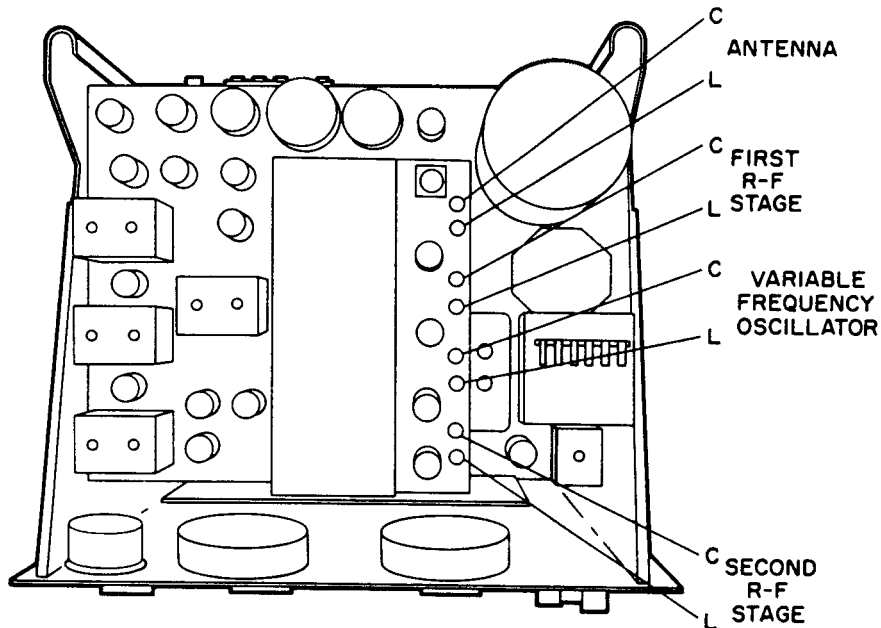
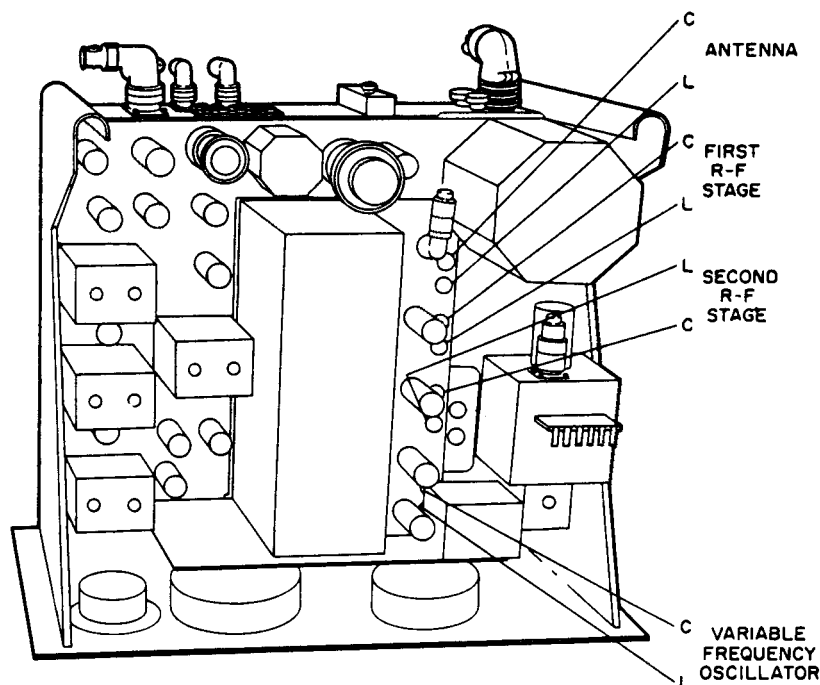

Figure 2-5. Radio Receiver SP-600-JX-21, Top View of R-F Section
Figure 2-6. Radio Receiver SP-600-JX-17, Top View
- (2) Set the MOD-CW switch on the radio receiver to the MOD position.
- (3) Set the SELECTIVITY switch on the radio receiver to the 3 NON-XTAL position.
- (4) Set the MULTIPLIER switch on the signal generator to the .1 position and adjust the CARRIER CONTROL until an indication of 100 is obtained on the signal generator output meter.
- (5) Adjust the MICROVOLTS control on the signal generator until an indication of 30 is obtained on the upper scale of the signal generator output meter.
- (6) Set the MOD SELECTOR switch on the signal generator to the 400 cycle position.
- (7) Set the METER READS switch on the signal generator to the % MOD position and adjust the % MODULATION control until an indication of 30 is obtained on the lower scale of the signal generator output meter.
- (8) Set the METER READS switch on the signal generator to the RF position.
- (9) Rotate the BAND CHANGE switch on the radio receiver until the indication 0.54-1.35 appears in the MEGACYCLES window.
- (10) Rotate the radio receiver TUNING control until an indication of 0.56 megacycle is obtained on the main tuning and vernier dials.
- (11) Adjust the AUDIO GAIN control on the radio receiver until an indication of 2.45 volts is obtained on the multimeter.
- (12) Refer to figure 2-5 for Radio Receiver SP-600-JX-21 or figure 2-6 for Radio Receiver SP-600-JX-17. Remove the metal caps and adjust, in turn, variable-frequency oscillator L, antenna L, first r-f stage L, and second r-f stage L until a maximum indication is obtained on the multimeter.
- (17) Adjust the CARRIER CONTROL on the signal generator until an indication of 100 is obtained on the signal generator output meter.
- (18) Adjust the MICROVOLTS control on the signal generator until an indication of 30 is obtained on the upper scale of the signal generator output meter.
- (19) Set the MOD SELECTOR switch on the signal generator to the 400 cycle position.
- (20) Refer to figure 2-5 for Radio Receiver SP-600-JX-21 or figure 2-6 for Radio Receiver SP-600-JX-17. Adjust, in turn, variable-frequency oscillator C, antenna C, first r-f stage C, and second r-f stage C until a maximum indication is obtained on the multimeter.
- (21) Rotate the CARRIER CONTROL on the signal generator fully counterclockwise.
- (22) Set the MOD SELECTOR switch on the signal generator to the OFF position.
- (23) Repeat step b. (4) through (6) and (8) through (22).
- (24) Rotate the signal generator tuning dial until an indication of 1.4 megacycles is obtained on the frequency and index scales.
- (25) Rotate the BAND CHANGE switch on the radio receiver until the indication 1.35-3.45 appears in the MEGACYCLES window.
- (26) Rotate the radio receiver TUNING control until an indication of 1.4 megacycles is obtained on the main tuning and vernier dials.
- (27) Repeat step b. (17) through (19).
- (28) Refer to figure 2-5 for Radio Receiver SP-600-JX-21 or figure 2-6 for Radio Receiver SP-600-JX-17. Adjust, in turn, variable-frequency oscillator L, antenna L, first r-f stage L, and second r-f stage L until a maximum indication is obtained on the multimeter.
- (29) Repeat step b. (13) and (14).
- (30) Set the FREQUENCY BAND SWITCH on the signal generator to the Band F position and rotate the signal generator tuning dial until an indication of 3.4 megacycles is obtained on the frequency and index scales.
- (31) Rotate the radio receiver TUNING control until an indication of 3.4 megacycles is obtained on the main tuning and vernier dials.
- (32) Repeat step b. (17) through (19).
- (33) Refer to figure 2-5 for Radio Receiver SP-600-JX-21 or figure 2-6 for Radio Receiver SP-600-JX-17. Adjust, in turn, variable-frequency oscillator C, antenna C, first r-f stage C, and second r-f stage C until a maximum indication is obtained on the multimeter.
- (34) Rotate the CARRIER CONTROL on the signal generator fully counterclockwise.
- (35) Set the MOD SELECTOR switch on the signal generator to the OFF position.